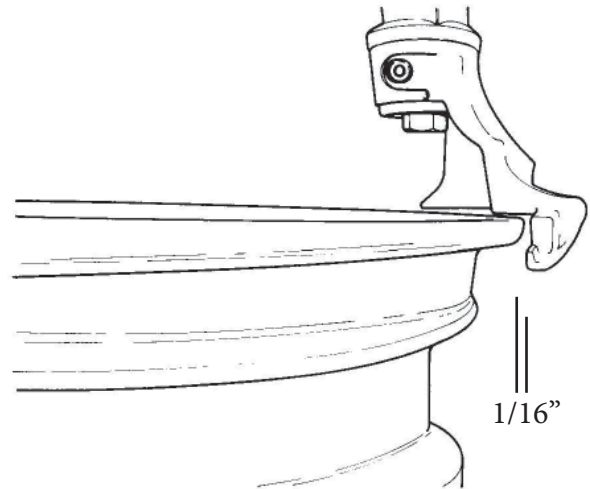

Fig. 4.1-4
E. Gently position the mount/demount head in contact with the rim edge and lock it into place: the tool automatically moves away from the rim edge vertically and horizontally approximately 1/16" (2mm): this is necessary to avoid any rim contact during the changing process. (Fig. 4.1-4).